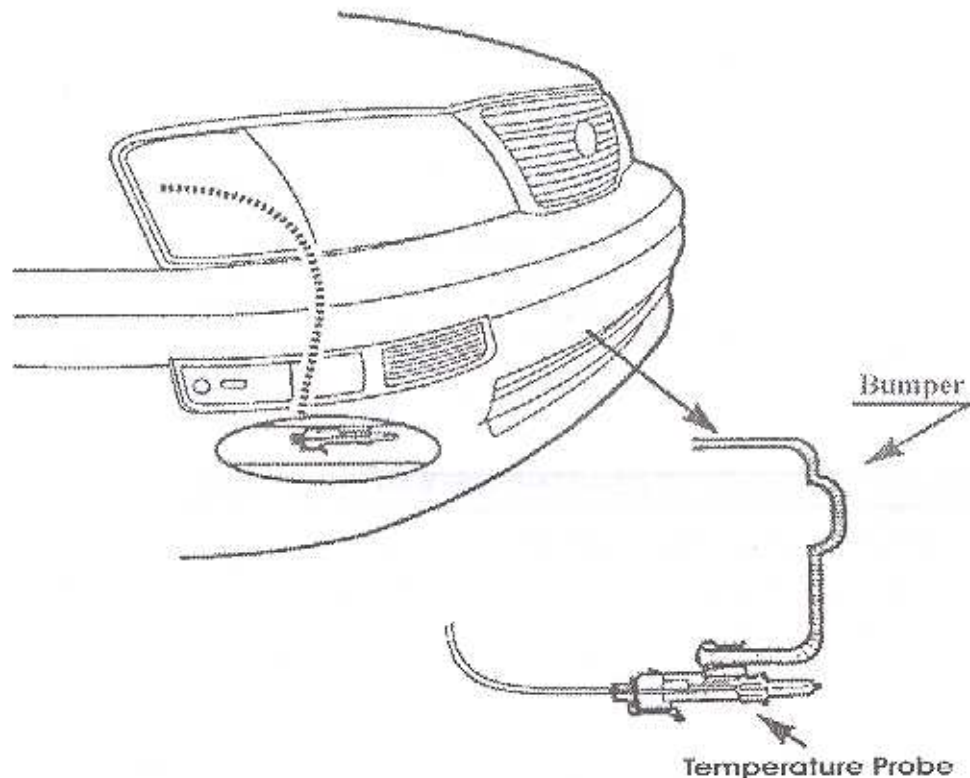

Fig. 10.5
10.5 Mount the temperature sensor probe. See figure 10.5